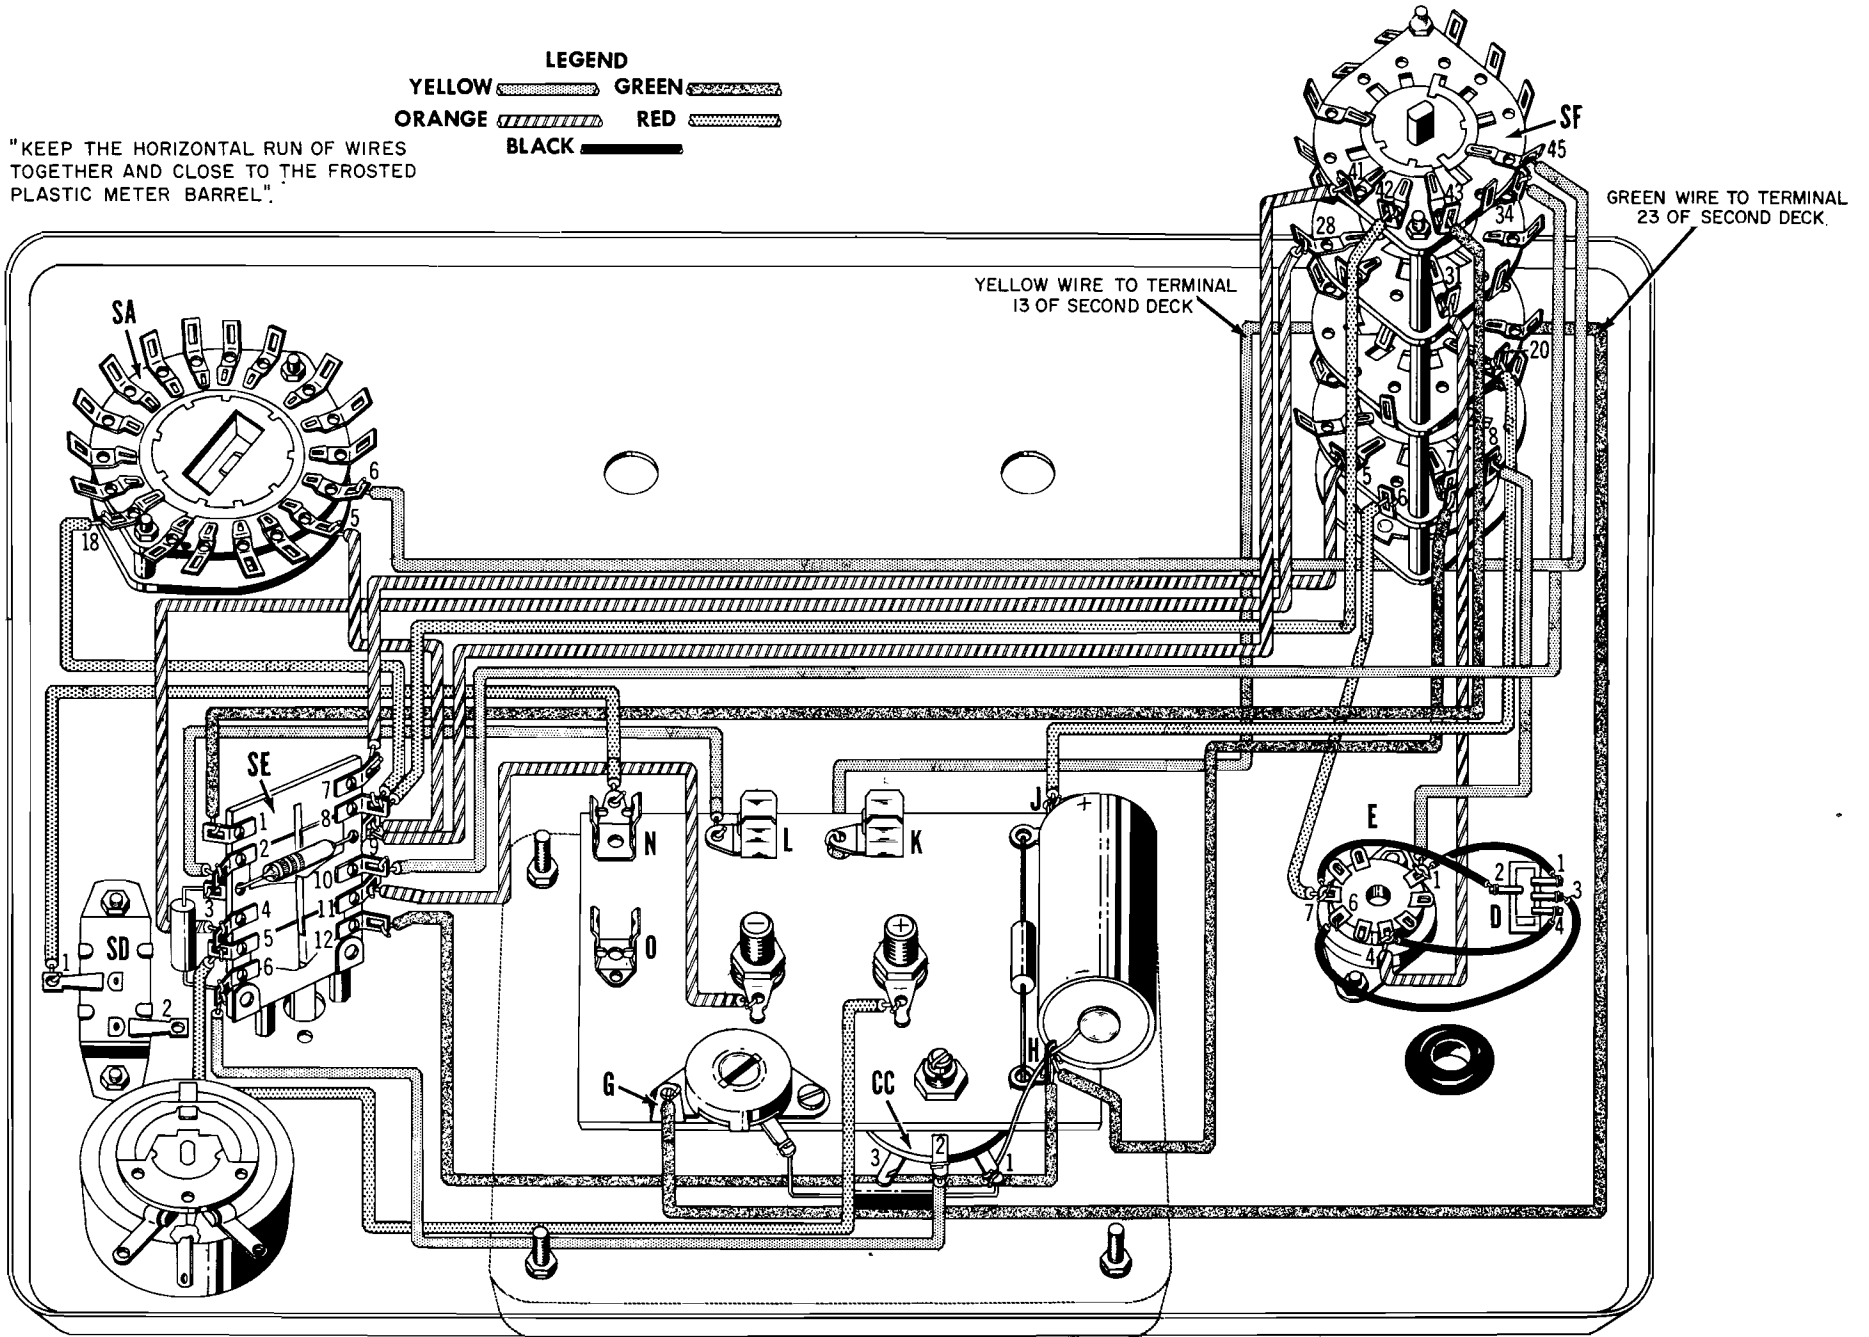

FIGURE 10 (SEE BLOW-UP NO. 1)
### REFER TO FIGURE 10.
- (✓) 62. Connect the anode lead (—, blank end) of the crystal diode to SE 9 (Solder). Connect the cathode lead (+, color coded end) to SE 3 (Don't Solder). Mount diode through rivet holes on front of switch as shown in Figure 10. Before soldering at SE 9 protect the diode against excessive heat by grasping the lead close to body of diode with long nose pliers.